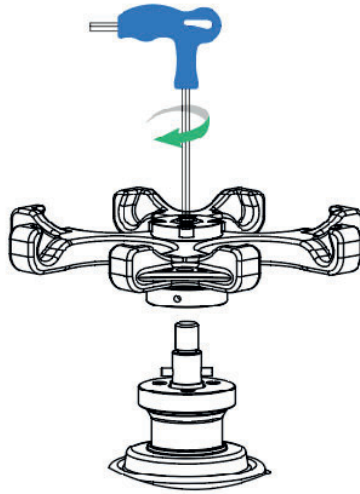

Figure 5: Schematic diagram of the mounting of the rotor body
The steps for installing the rotor are as follows (as shown in Figures 5 and 6)
- As shown in Figure 5, prepare the rotor you want to use. Hold the rotor with both hands, point the center hole of the rotor at the spindle of the motor, put it vertically, put to the bottom of the cone, open your hands, and then press the rotor down with your hands.